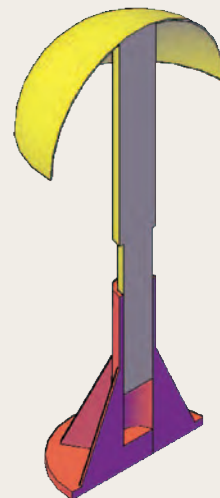
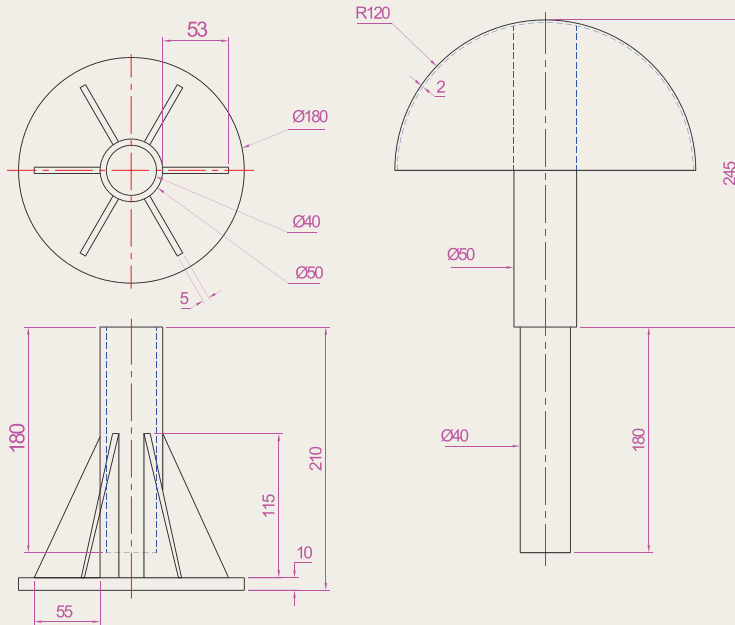

Fig. 14.47 Exercise 3
Fig. 14.48 Exercise 3 – orthographic projections
- Working to the dimensions given in the two orthographic projections (Fig. 14.48), and working on two layers of different colours, construct an assembled 3D model of the one part inside the other. With the **Slice** tool, slice the resulting 3D model into two equal parts, place in an isometric view and call the **Hide** tool as indicated in Fig. 14.47. Shade the resulting model in **Realistic** mode.